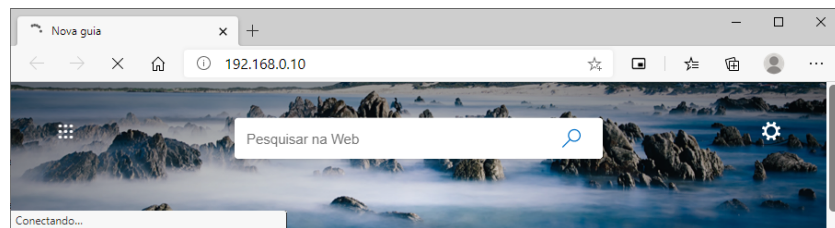

*Figure 6.1: Preparing for the Drive Scan configuration*
- Step 1** Connect an Ethernet cable between the computer and the Drive Scan GbE0 port (located next to the power supply connector), as shown in Figure 6.1.
If the connection is via ethernet port GbE0 (Figure 6.1) e avance ao **Step 17**.